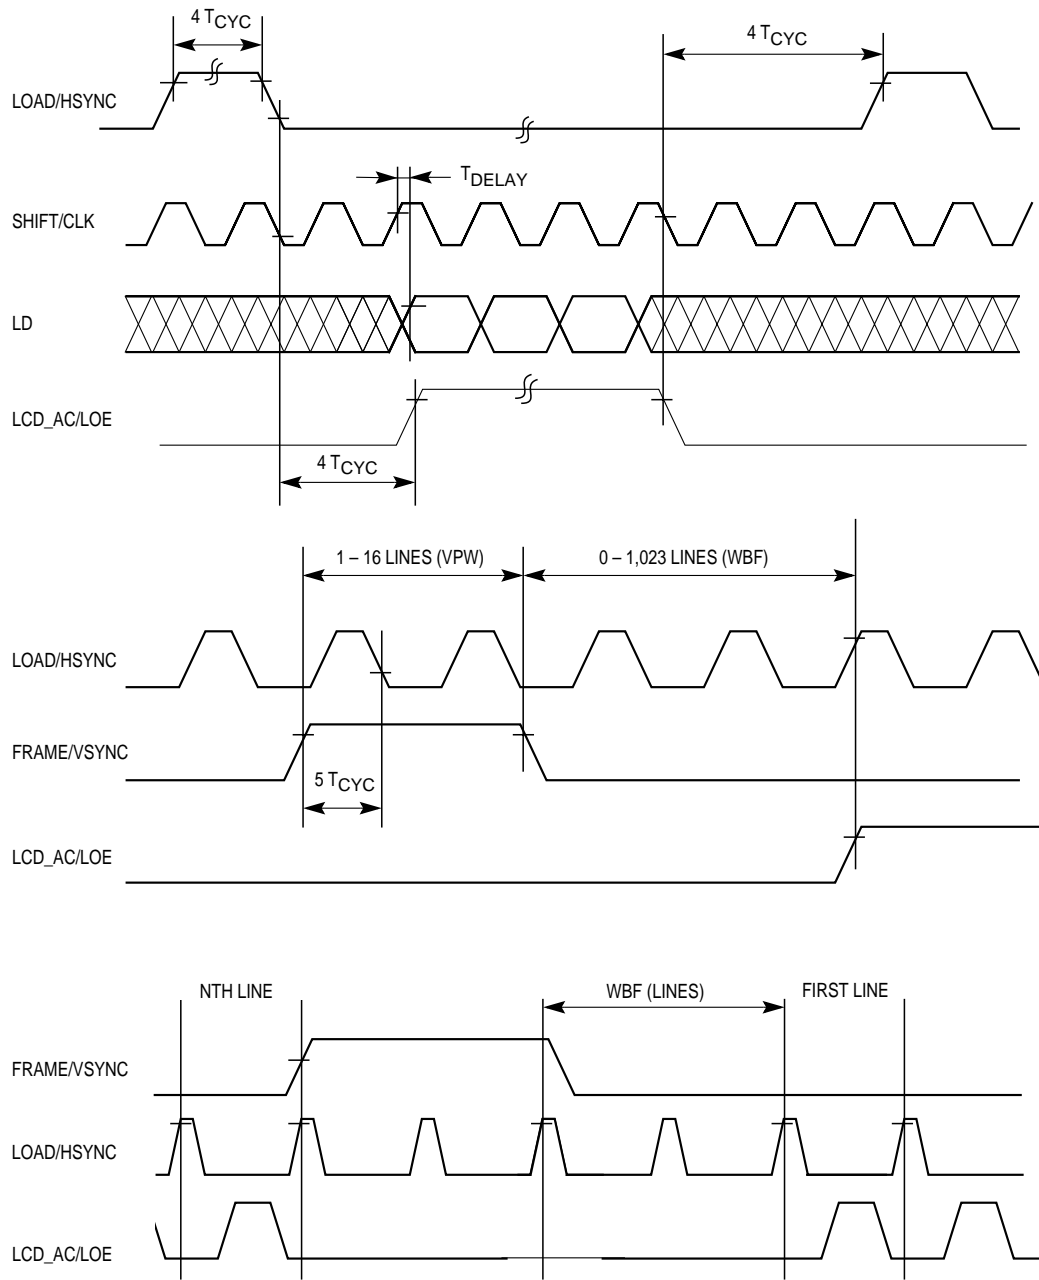

Figure 18-12. Active Interface Timing Diagram
**18.3.9.3 ACTIVE INTERFACE.** Active (TFT) interfaces use the following signals. These signals have a programmable polarity.  $T_{cyc}$  is the cycle time of the LCD clock (SHIFT/CLK).  $T_{delay}$  is a circuit delay that is specified in **Section 22 DC Electrical Characteristics**. In Figure 18-12, the reference to 1-16 lines signifies that the time period depends on how the the VPW field in the LCVCR register. The reference to 0-1,023 lines signifies that the time period varies between 0 and 1,023 scan lines (WBF field in the LCVCR).